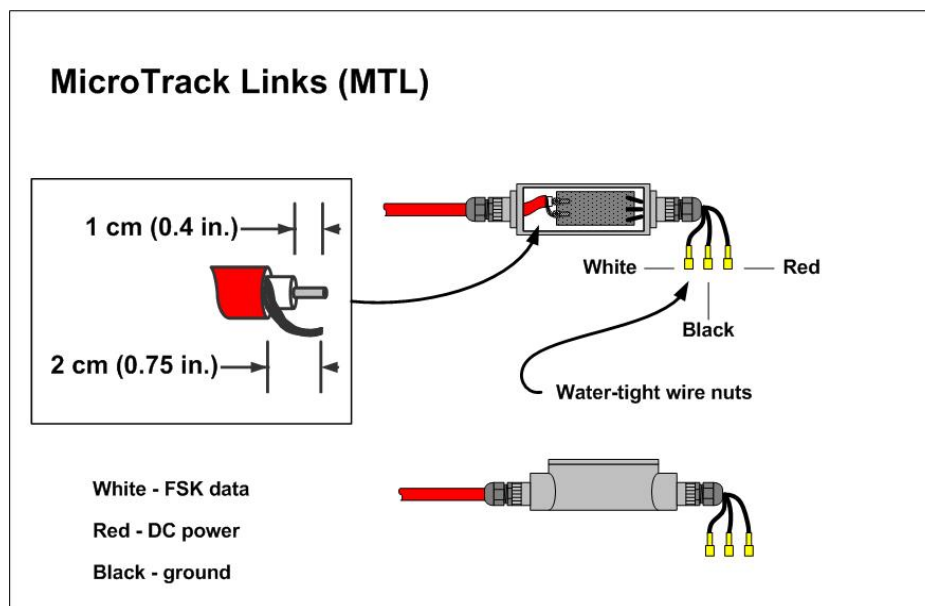

Figure 5.13 MicroTrack Links Connect to Each End of a Sensor Cable Assembly
4. Prepare the end of the sensor cable for connection to the circuit card in the MTL enclosure, as follows (refer to Figure 5.13 below):